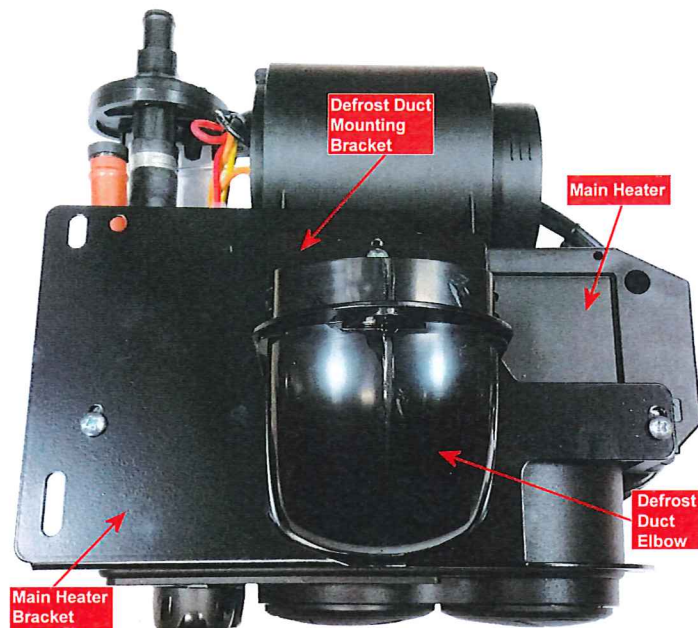

Figure 3
10. Install the Heater Bracket (defrost duct end with the tabs toward the duct mounting bracket) and the Defrost Duct Mounting Bracket to the Main Heater Unit as shown in Figure 3 and attach using the supplied Plastic Mounting Screws and the $\frac{1}{4}$ " Fender Washers.